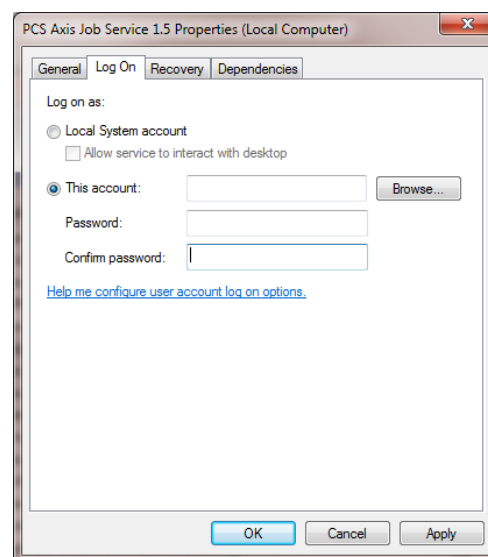
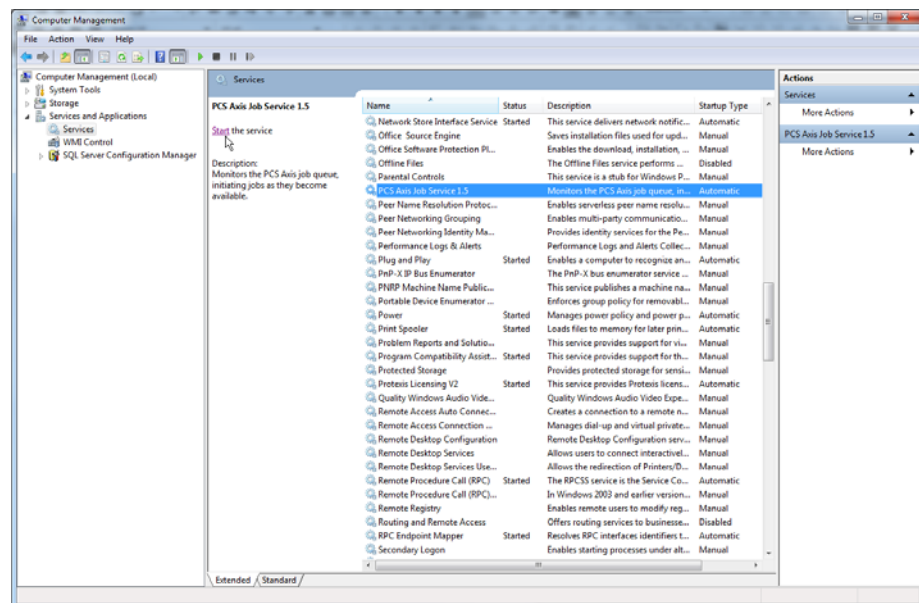

Figure 11-7. PCS Axis Job Service 1.5 Properties
Figure 11-8. Computer Management Console
- c Right-click **PCS Axis Job Service 1.5** (Figure 11-8) and select **Properties** in the shortcut menu to open the *Properties* dialog box (Figure 11-7).
- a Select **PCS Axis Job Service 1.5** and then click **Start** (Figure 11-8).